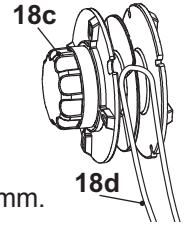

Fig. 30
5. Double the trimmer line (18d) back and lead the loop through the slot of the trimming spool (18c) and hook it (Fig. 30).